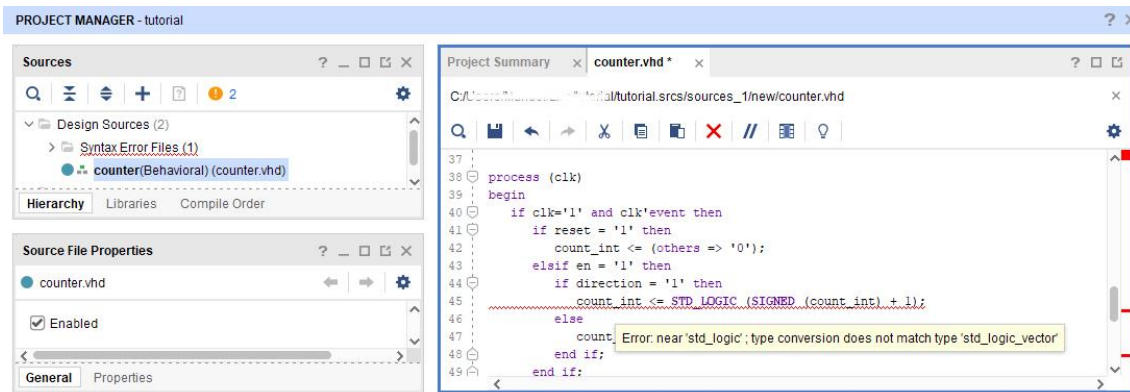

Figure 12
3. Hover the mouse cursor over the underlined line; a status window error message appears (Figure 12)